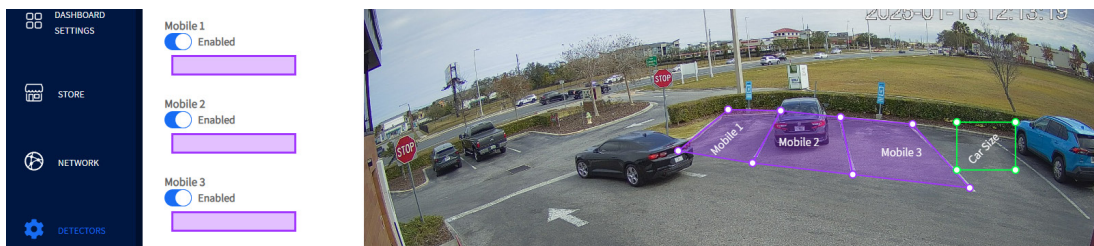

Fig. 26
9. The Car Size polygon (in green) is used as a measurement tool to approximate the size of a car. Any average-sized car (e.g., a sedan) close to the mobile spaces can be used. Place the box over a car and adjust the box using the corner points to match the car size. If no cars are present a mobile space can be used to approximate the size of a car (the installer can also use their car if it is an average-sized vehicle). If you sized the car using a Mobile space, move the Car Size polygon out of the Mobile space drawing before saving. See Fig. 26.